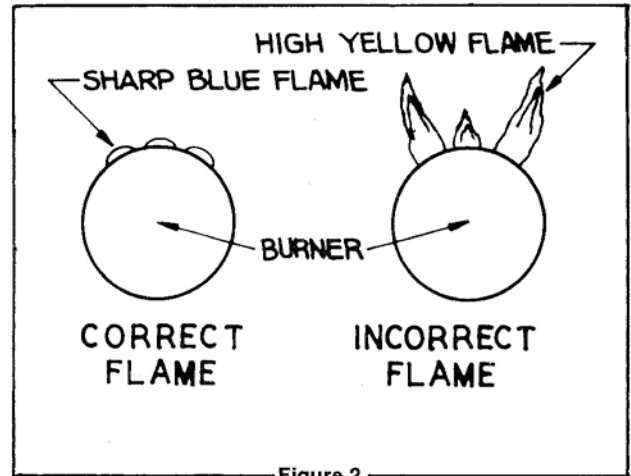

Figure 2
9. Periodically observe the main burner flame to assure it is burning with a hard blue flame with well defined burner ports (see Figure 2). If flame appears yellow or burner has a lazy flame, shut furnace down and contact a qualified service person.